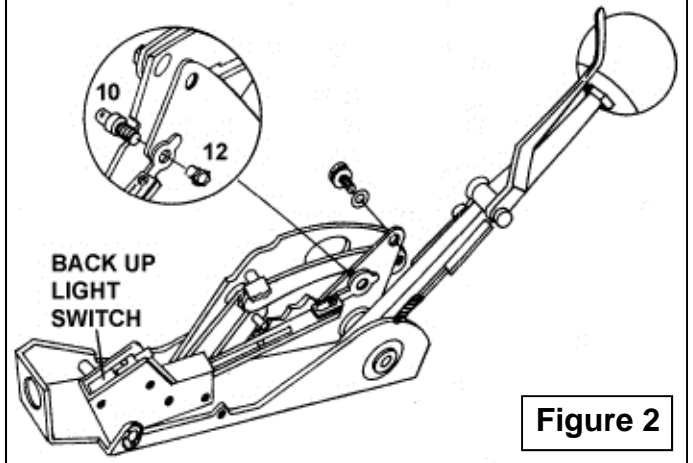

Figure 2
3. Remove right side, lower the hex-head cap screw and washer from the shifter handle. (See Figure 2).
4. Use trigger to shift stick back to gain access to gear position detent plate. This allows access to back end of the cable pin. Engage the hole in the provided eye bracket over the back end of the cable pin. (See Figure 2)